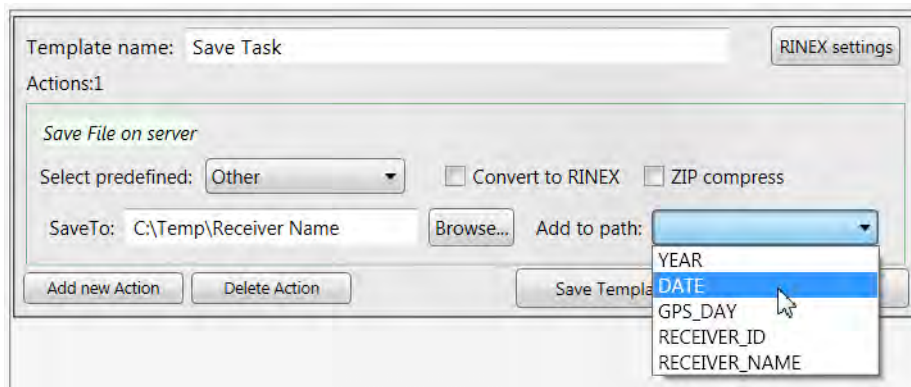

Figure 2-10. Task Template: Save
1. Specify the directory¹ (*Save to*). Click the *Browse* button to select the desired folder. To the save path can be added the following predefined variables: year, date, GPS day, Receiver ID or receiver name (Figure 2-10). This allows arranging the files to the specified folders (e.g. sort the Raw and RINEX files by GPS day and place them to the different folders).